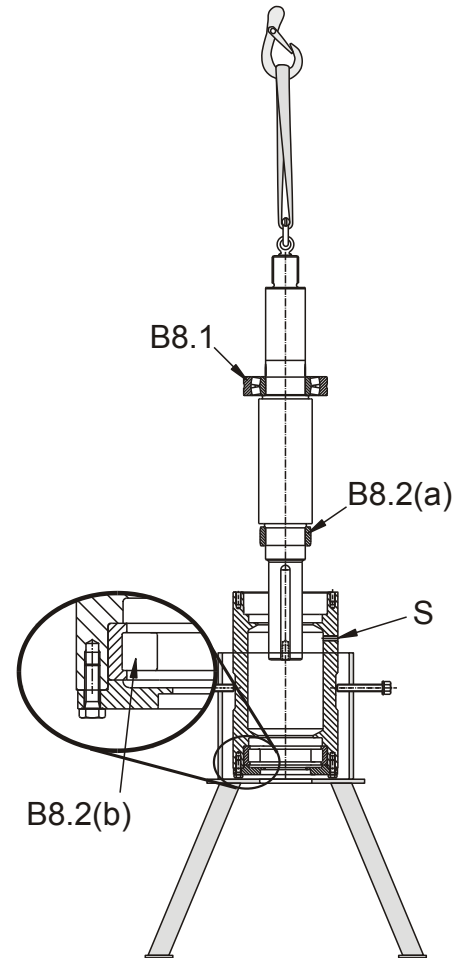

Figure 9.5.5-3 Assembling the bearing cylinder.
- e) Press or tap the dry-end bearing outer race (B8.2b) –see Figure 9.5.5-3– into the bearing housing end farthest from the tapped saddle screw holes (S). Make sure that it is tight against the shoulder.
- i) Lift the shaft assembly, as shown in Figure 9.5.5-3, and lower it into the bearing housing –dry-end first.